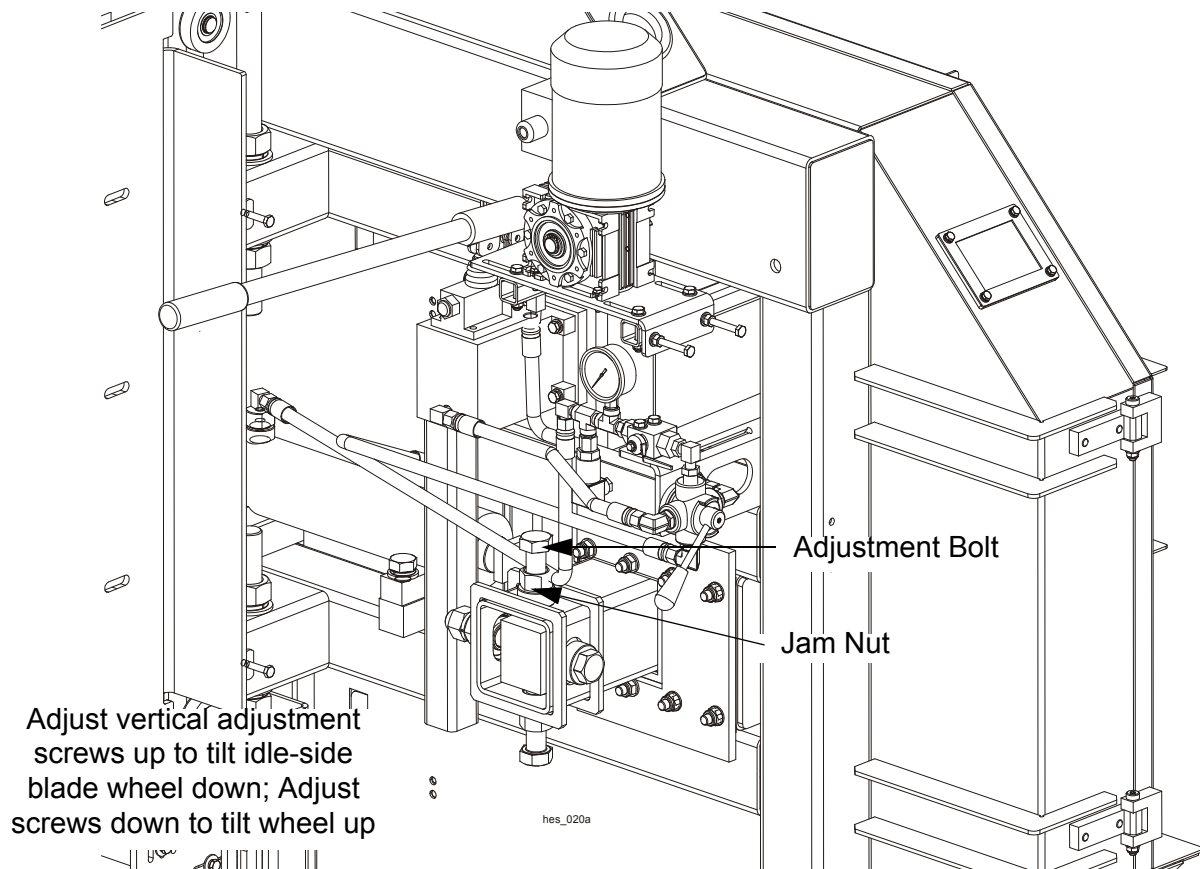

**FIG. 6-4 DRIVE SIDE WHEEL VERTICAL ADJUSTMENT (SOME PARTS WERE HIDDEN INTENTIONALLY)**
**See Figure 6-4.** Unbolt and remove inner cover of the the drive side wheel. Use the vertical adjustment screws to adjust the drive-side blade wheel. To tilt the wheel down, loosen two lock bolts and the top adjustment screw one quarter turn. Loosen the jam nut on the bottom adjustment screw and tighten the screw. Tighten the top and bottom jam nuts and lock bolts. To tilt the wheel up, loosen two lock bolts and the bottom adjustment screw one quarter turn. Loosen the jam nut on the top adjustment screw and tighten the screw. Tighten the top and bottom jam nuts and lock bolts. Mount the inner cover of the drive